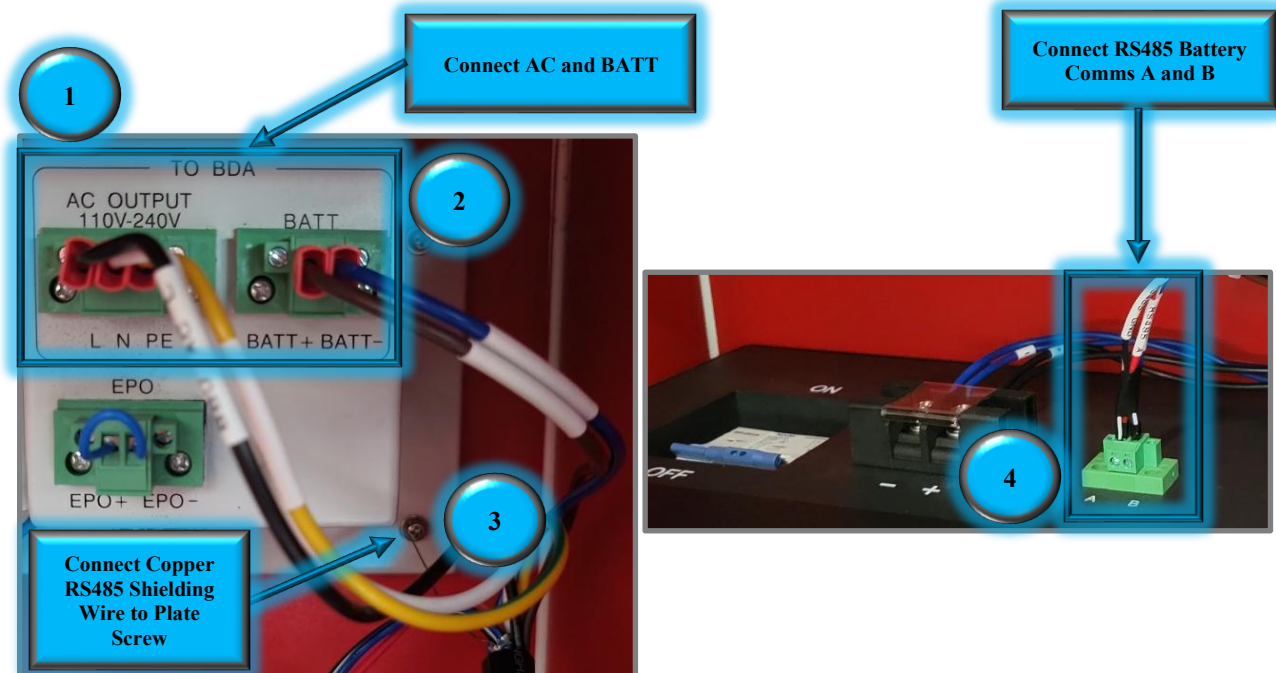

Figure 44: Hybrid Cable Connection in BBU
- Connect the connectorized end of the Hybrid cable to the BBU as shown in Figure 44 below.